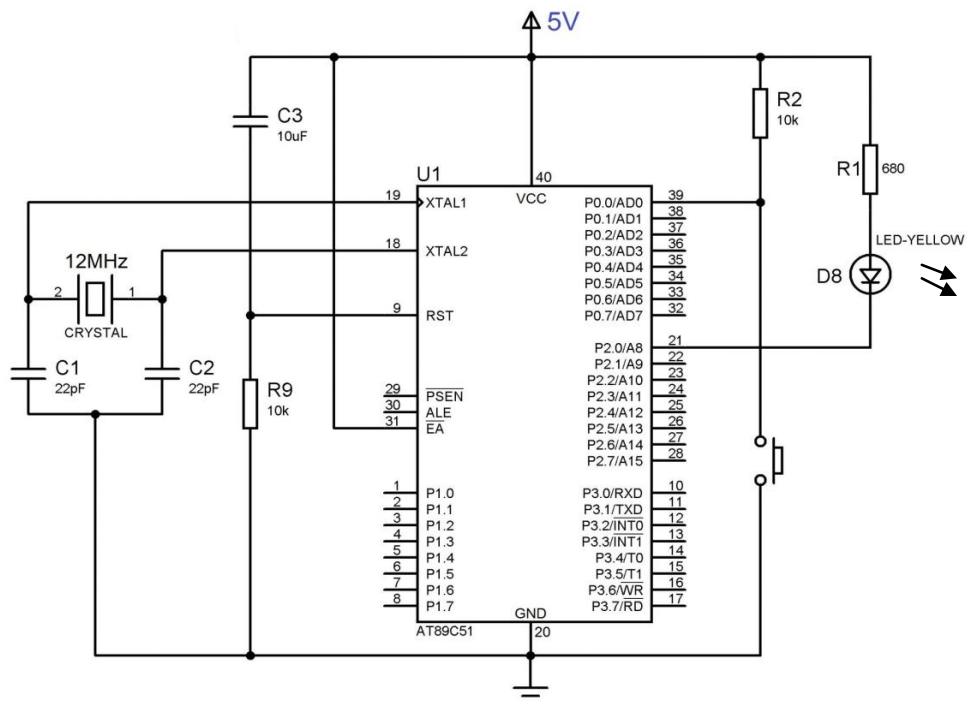

Figure 9.4: 89C51 connection to LED and switch
8. Interface LED to microcontroller as per circuit diagram shown in Figure. 9.4
3. Refer Figure 9.4, change the LED connections. Connect anode of LED to P2.0 and cathode to ground. Modify the program given in Step 3 and turn ON the LED.